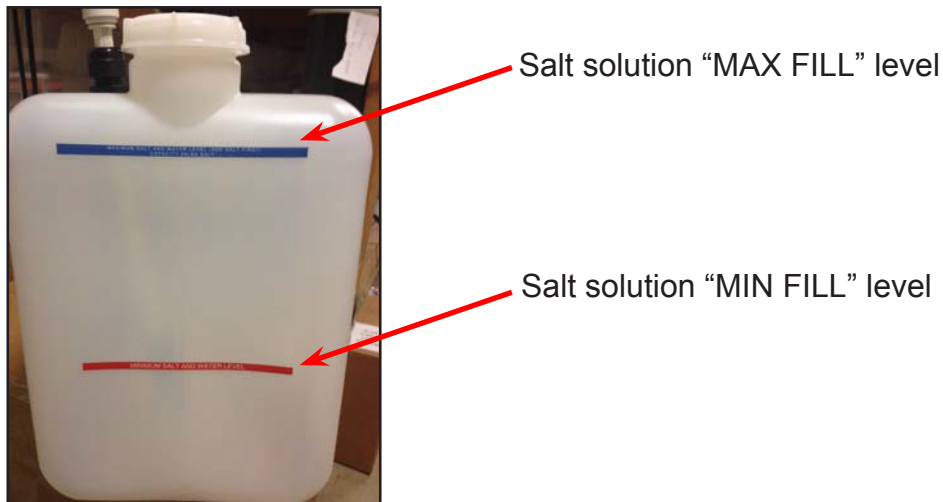

Figure 113. Fill Saturated Salt Feeder to Marked Levels
2. Ensure that the saturated salt feeder is filled to the marked levels with salt solution; these levels are marked in black for MAX FILL and red for MIN FILL (see Figure 113).